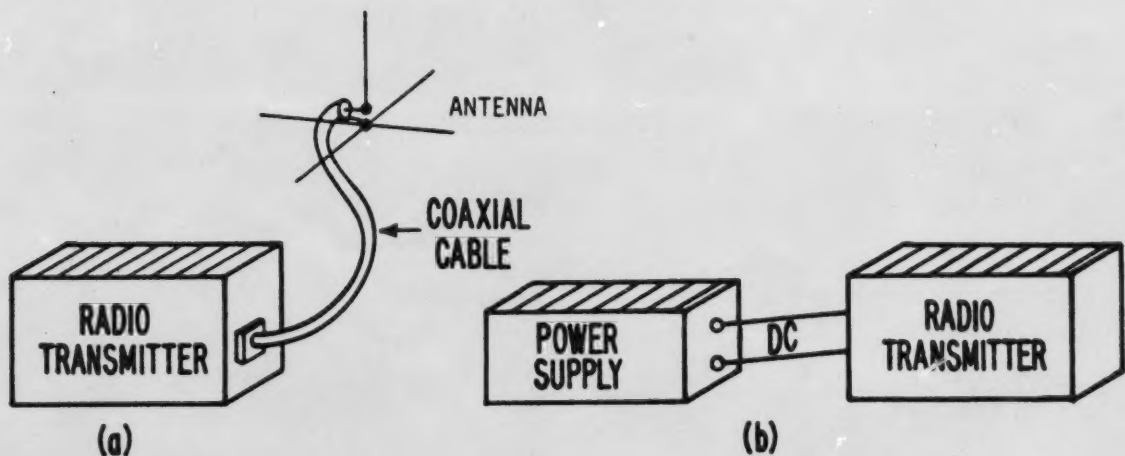

Figure 1
In Figure 1(b), a power supply is shown connected to one of its normal loads which is a radio transmitter. In order to test the power supply, you need to operate it. However, the transmitter has fragile semiconductor devices which may be damaged while you are troubleshooting the power supply. You can see from both examples that there is a need both to test equipments under load conditions and to isolate them from their normal loads.
1. Many times in your electronics career you will have to test a piece of equipment without having it connected to its normal load device. Figure 1 shows two common situations in which this happens.
In Figure 1(a), a radio transmitter is shown connected to its normal load which is an antenna. In order to test the transmitter, you would need to "key" it (make it transmit). However, when you key the transmitter, radio